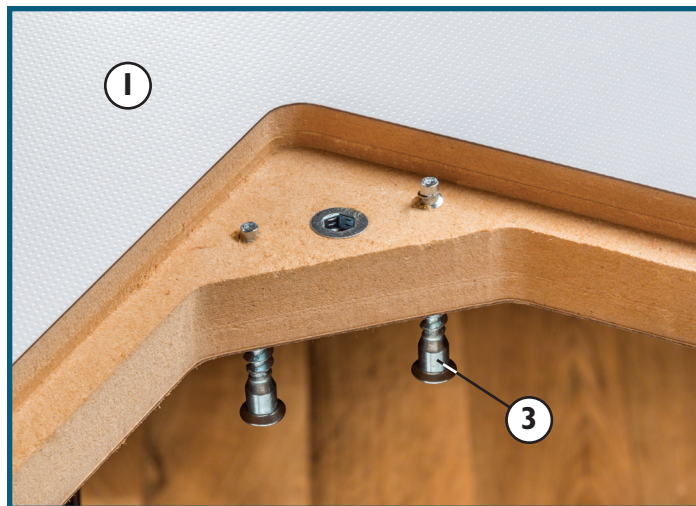

Fig. 1
1. Install the 7 x 40mm Plate Leveling Screws (3) up through the predrilled holes in the lip of the opening for the router plate. **Fig. 1.**
2. Install the router plate and adjust the screws' height until the router plate is flush with the HPL Tabletop (1).